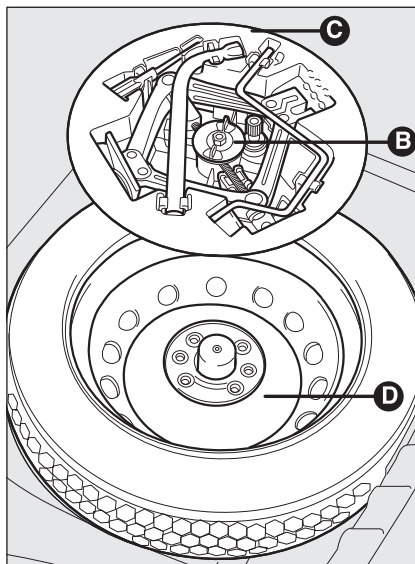

fig. 4
- ☐ loosen the clamping device **B-fig. 4**;